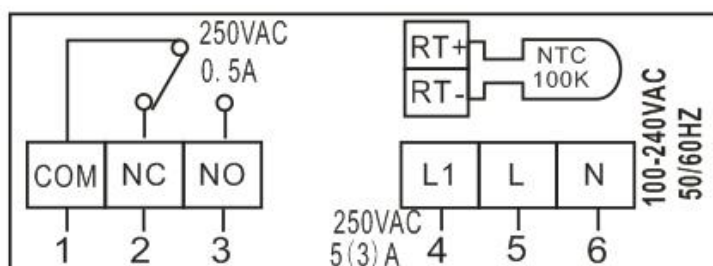

Figure2
2. Connect wires beneath terminal screws on the base using appropriate wiring schematic. See figure 2
The thermostat has build in sensor and terminal RT+, RT- for remote sensor. (See Figure 2) If remote sensor is connected to RT+, RT-, the detective temperature is used to control output. If there is no remote sensor , the thermostat will use temperature detected by build-in sensor to control output.